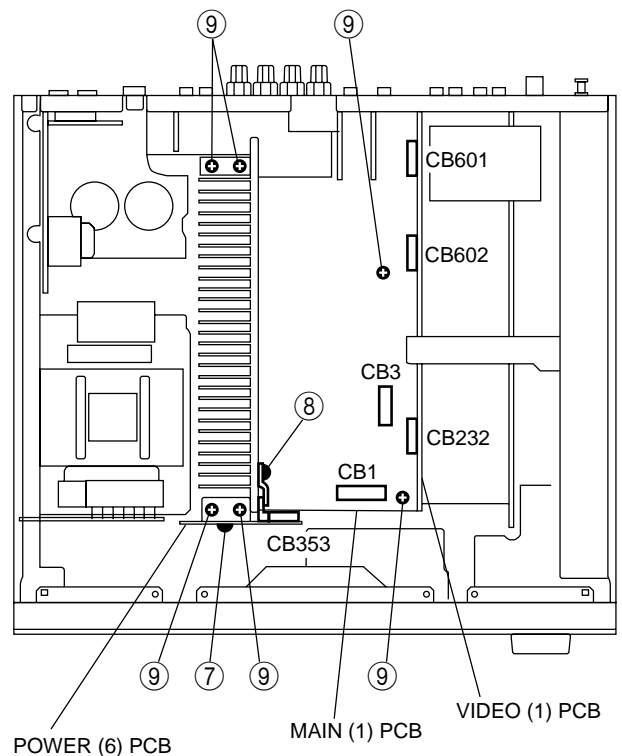

Fig. 2
- Disconnect 3 connectors (CB232, CB601, CB602 in Fig.2) from the VIDEO PCB (1), and disconnect the connector (CB3) from the MAIN PCB (1) in Fig. 2.
- Disconnect the connector (CB353) from the POWER PCB (6) in Fig. 2.
- Remove the plastic rivet (⑦), and the POWER PCB (6) can be removed upward from the heat sink.
- Disconnect the connector (CB1 in Fig. 2) from the MAIN PCB (1).
- Remove 2 screws (⑧) in Fig. 2, and the support Transistor can be removed.
- Remove 6 screws (⑨) in Fig. 2.